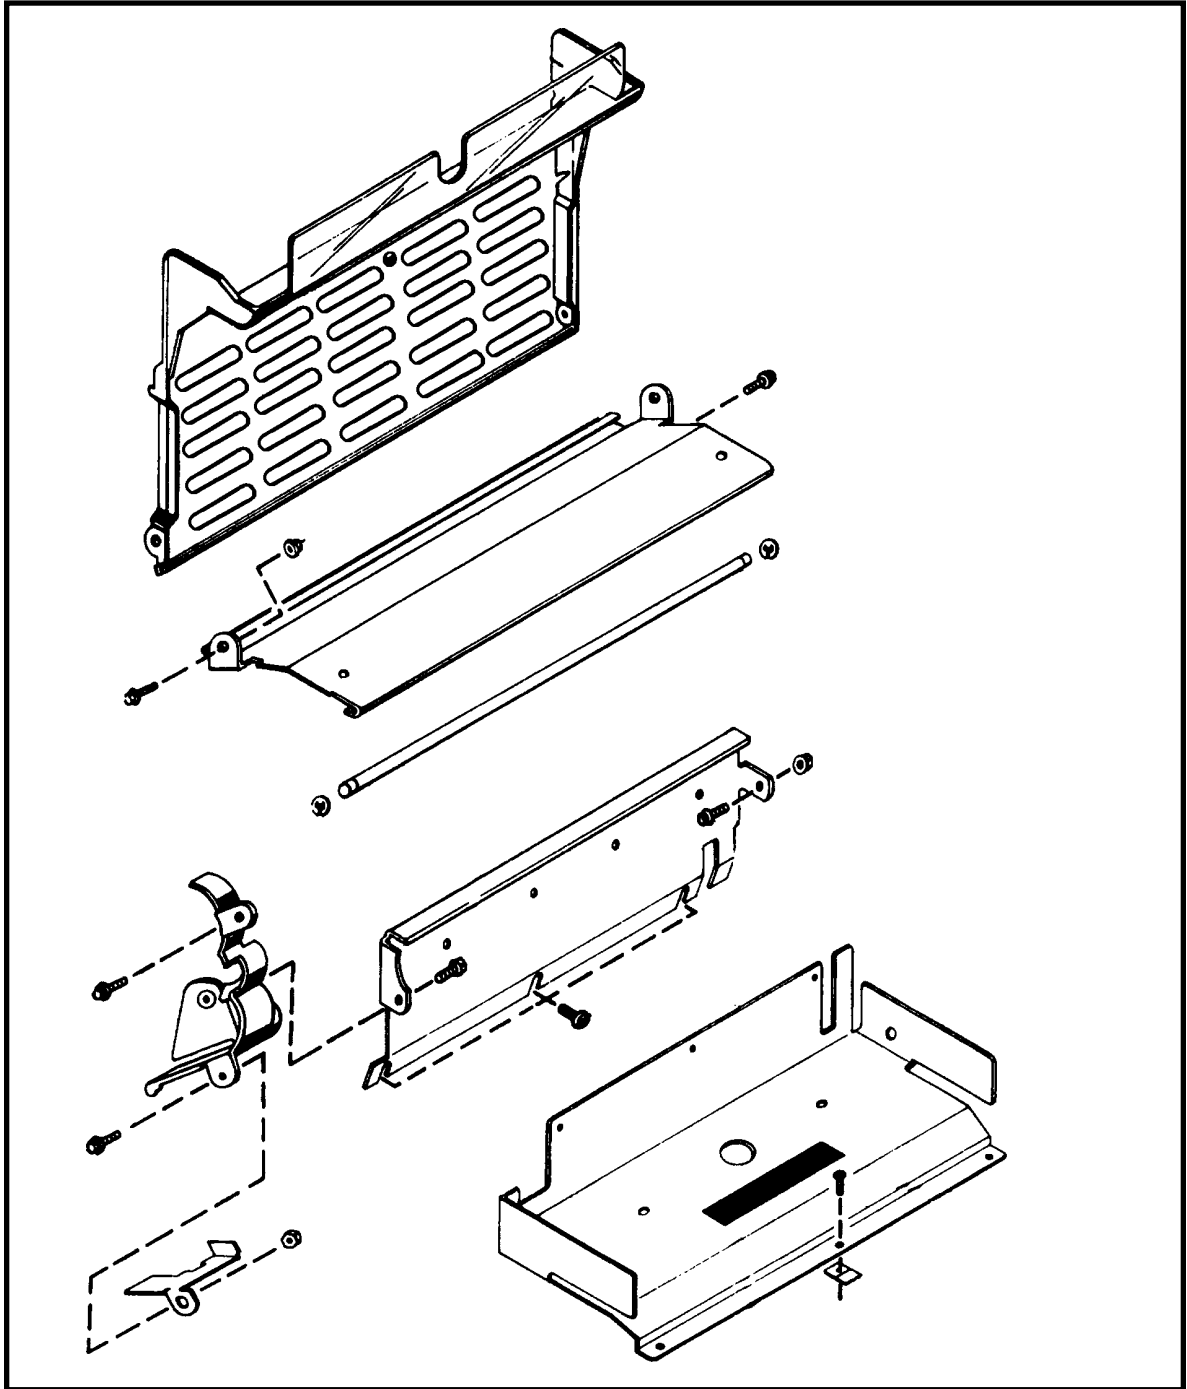

Figure 78 - 9905 Receiving Tray Guards
1. Remove the auxiliary form roll assembly, keyboard and side covers. For 9905 machines, remove the receiving tray guards (see Figure 78).